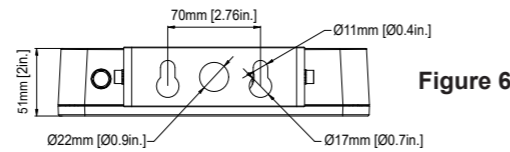

Figure 6
1. Drilling holes in the mounting surface according to the Figure 6.